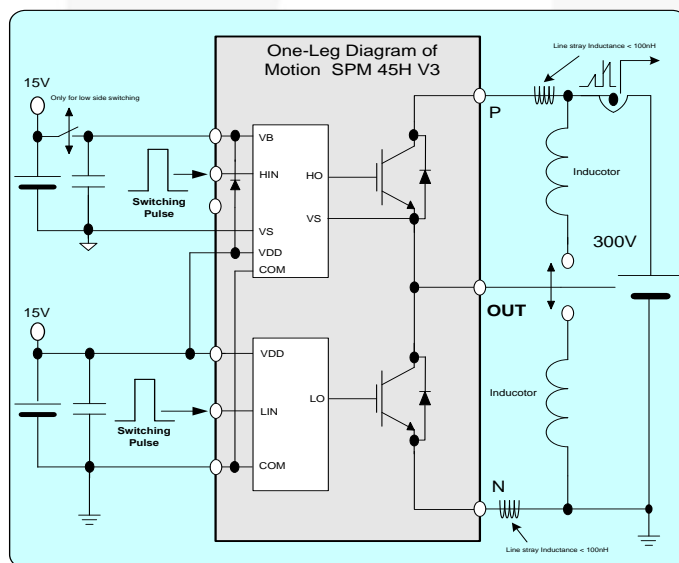
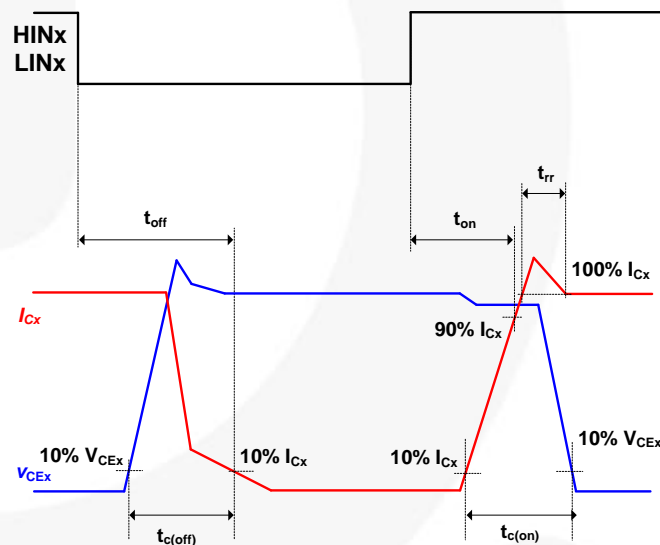

Figure 5. Switching Evaluation Circuit
Figure 6. Switching Time Definition
6. t_{ON} and t_{OFF} include the propagation delay of the internal drive IC. $t_{C(ON)}$ and $t_{C(OFF)}$ are the switching times of the IGBT itself under the given gate driving condition internally. For the detailed information, see Figure 5 and Figure 6.